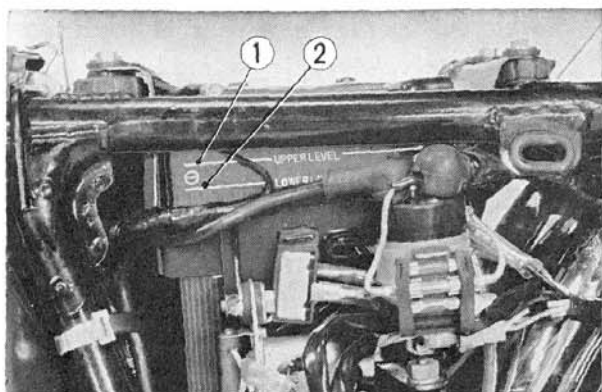

Fig. 19-14 ① Upper level mark
- (1) Remove the left cover by pulling free of the rubber mounts and by raising the seat. Observe the electrolyte level from the left side at the motorcycle. If it is necessary add distilled water carefully to bring the electrolyte level of the cells between the lower and upper marks. (Fig. 19-14)